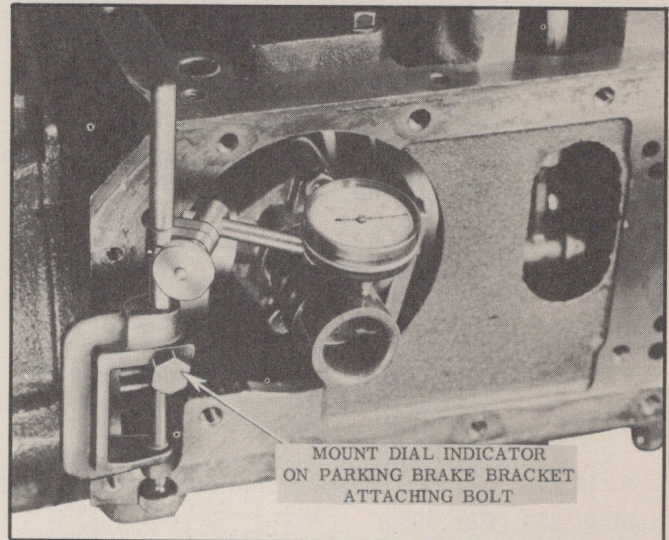

Fig. 304—Checking Governor Runout
8. Install dial indicator and check governor runout at tower about $\frac{1}{4}$ " from the end of the governor (Fig. 304). Runout should not exceed .005". If run-